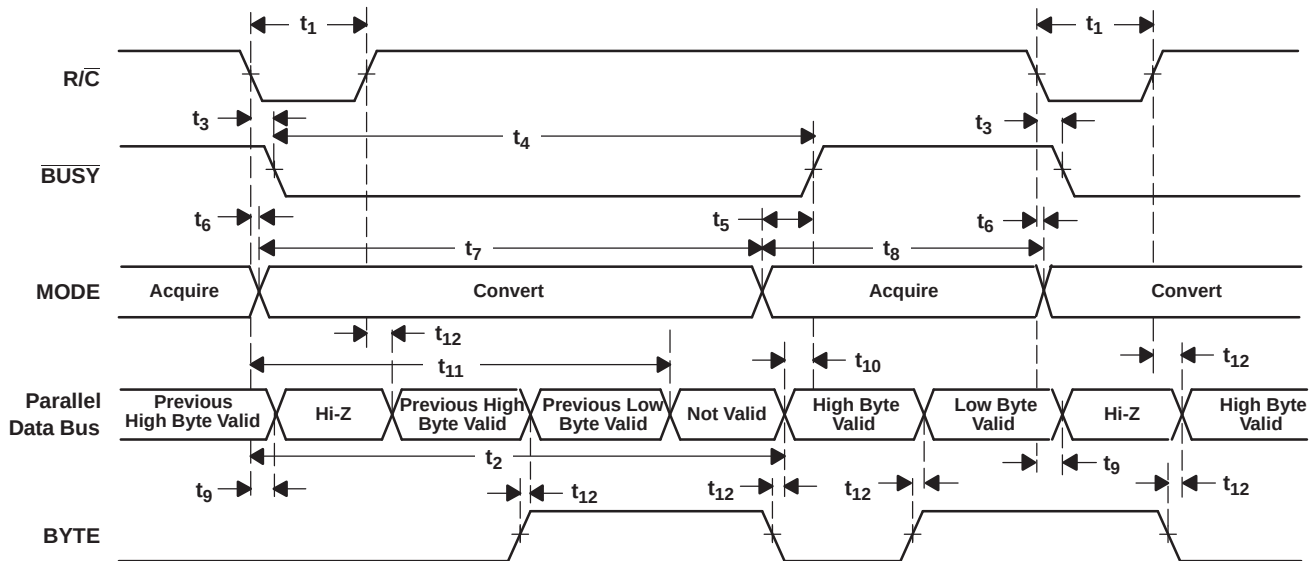
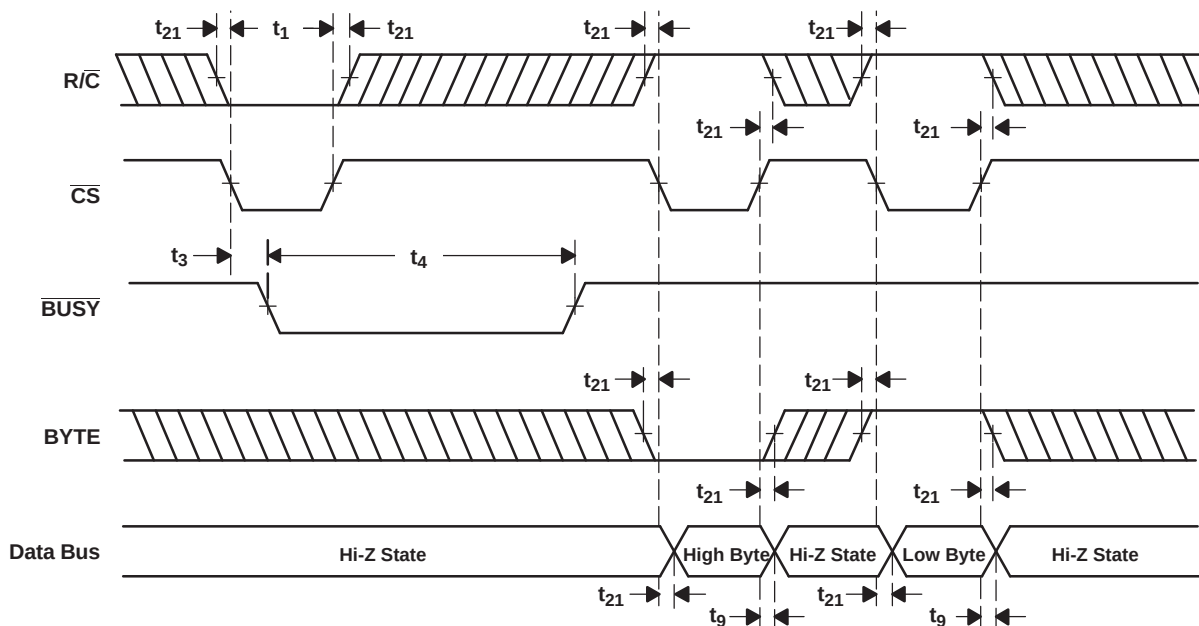

Figure 33. Conversion Timing With Parallel Output ($\overline{\text{CS}}$ and DATACLK Tied Low, EXT/INT Tied High)
Figure 34. $\overline{\text{CS}}$ to Control Conversion and Read Timing With Parallel Outputs
The ADS8506 begins tracking the input signal at the end of the conversion. Allowing 25 μ s between convert commands assures accurate acquisition of a new signal. Refer to Table 2 and Table 3 for a summary of $\overline{\text{CS}}$, $\text{R}/\overline{\text{C}}$, and $\overline{\text{BUSY}}$ states, and Figure 33, Figure 34, Figure 35, Figure 36, Figure 37, Figure 38, and Figure 39 for timing diagrams.
(1) See Figure 33 and Figure 34 for constraints on data valid from conversion N-1.
After conversion N is completed and the output registers have been updated, $\overline{\text{BUSY}}$ (pin 24) goes high. Valid data from conversion N is available on D7-D0 (pin 9-13 and 15-17). $\overline{\text{BUSY}}$ going high can be used to latch the data. Refer to Table 5 and Figure 33 and Figure 34 for timing specifications.
After conversion N has been initiated, valid data from conversion $N-1$ can be read and is valid up to 12 μs after the start of conversion N . Do not attempt to read data beyond 12 μs after the start of conversion N until $\overline{\text{BUSY}}$ (pin 24) goes high; this may result in reading invalid data. Refer to Table 5 and Figure 33 and Figure 34 for timing constraints.